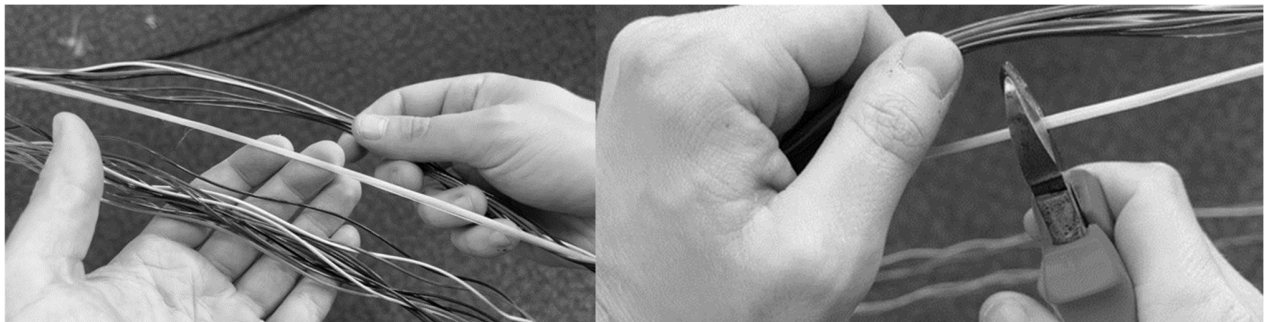

Figure 28 - Unwrap the Inner buffer tubes and CSM at same reversal point.
5.15 Repeat step 4.12 for the inner core of the cable whilst splitting the central strength member in the middle i.e. the reversal point (Figure 28).